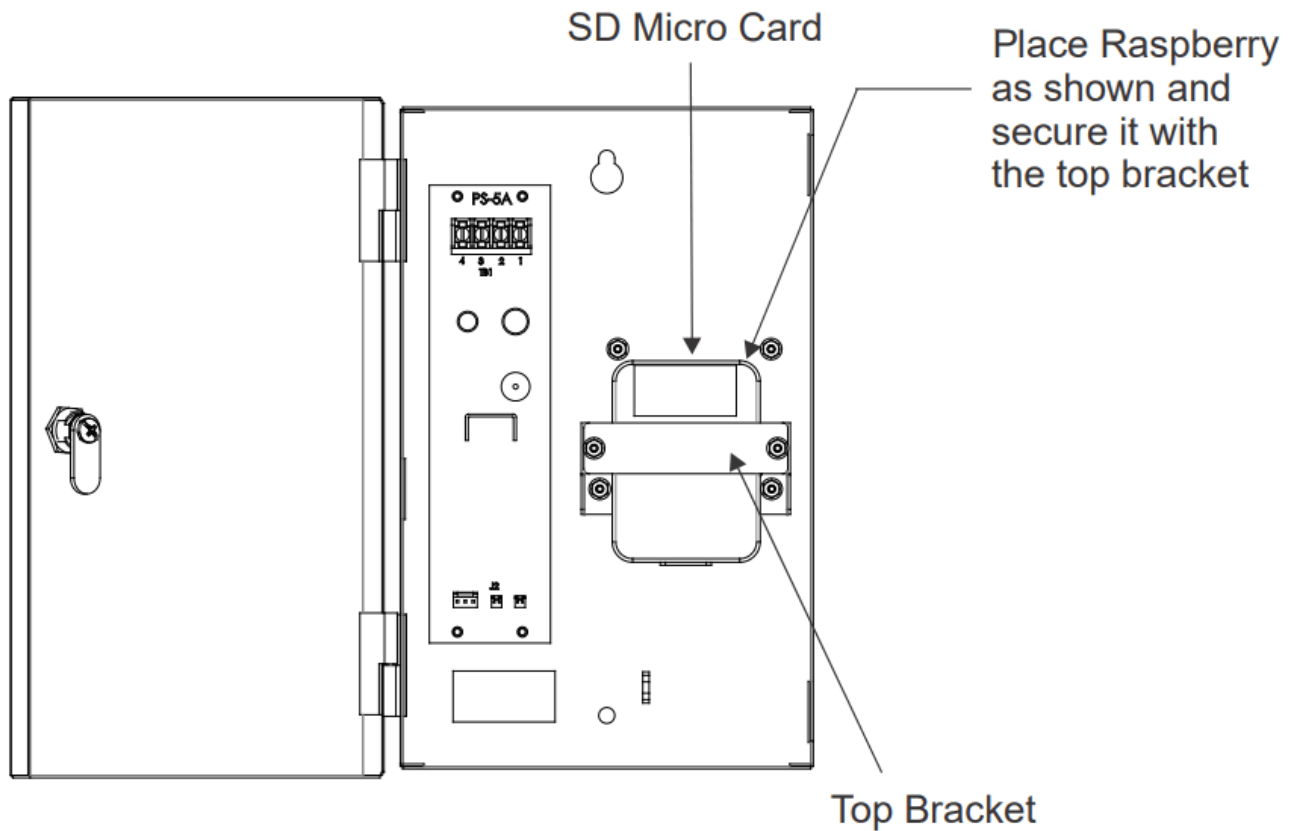

Figure 6 Mount the Raspberry
5. Place the Raspberry unit as shown in Figure 6 and use bracket with the (2) nuts to keep the Raspberry in place.